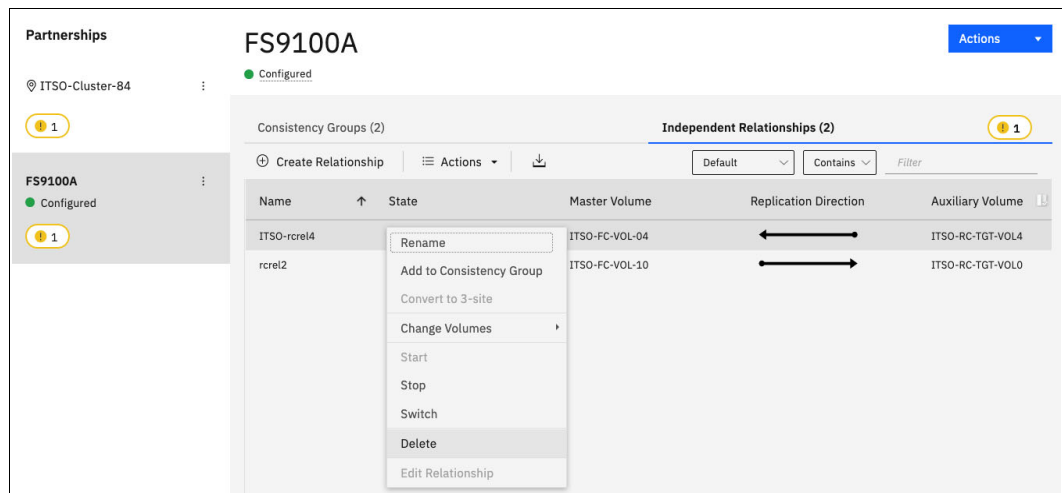

Figure 10-145 Deleting Remote Copy relationships
2. Select the target RC system and go to the **Independent Relationships** tab. Next, right-click the relationships that you want to delete and select **Delete**, as shown in Figure 10-145.